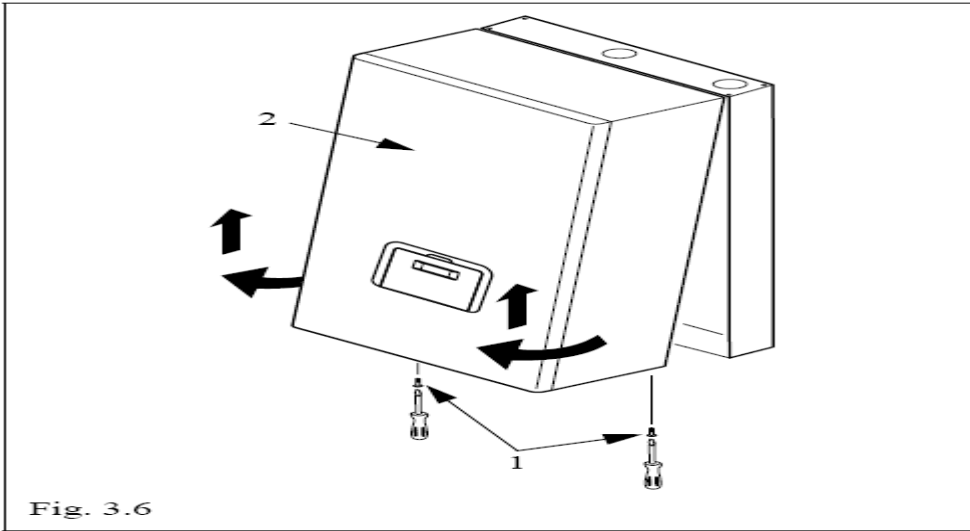

Fig. 3.6
- Remove the front panel (2) by removing the screws (1). (Figure 3.6)